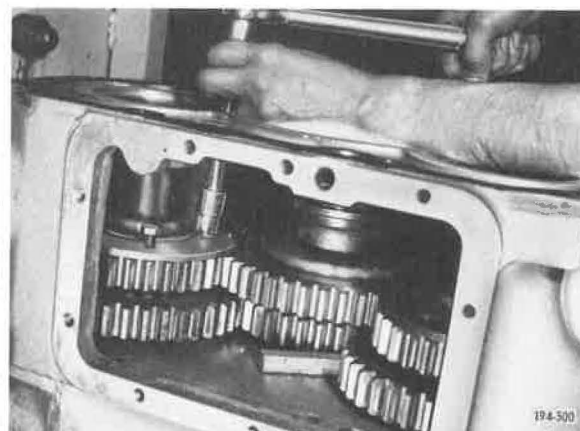

Figure 384. Torquing Capscrews
20. Install thrust washer capscrews and run down finger tight. So that gears cannot turn, place a soft iron wedge between the gear teeth, and tighten capscrews to 24 to 30 lb. ft. torque (reference Torque and Tolerance Table, Item 6). See Figure 384.